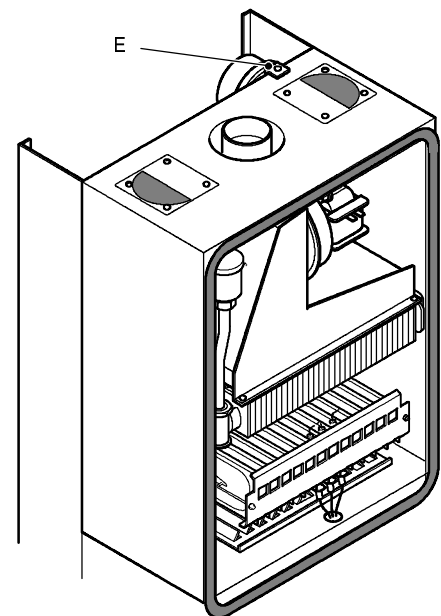

fig. 76b
- 1 Unscrew the screw *E* which holds the air pressure switch mounting bracket to the frame (fig. 76b);